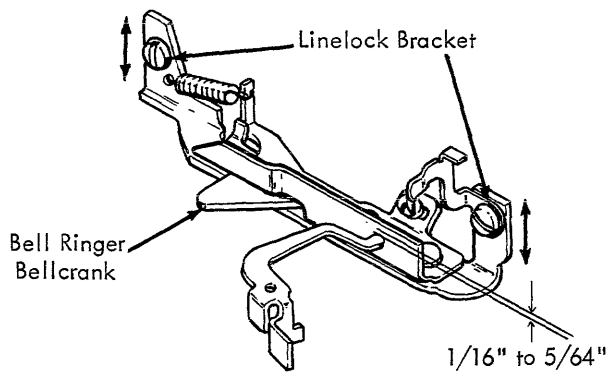

FIGURE 182A. Line Lock Bracket
6. Line Lock Bracket - Adjust the line lock bracket up or down so that the bellringer bellcrank will ride $1/16''$ to $5/64''$ from the bottom as the carrier moves into the line lock position. (Fig. 182A).